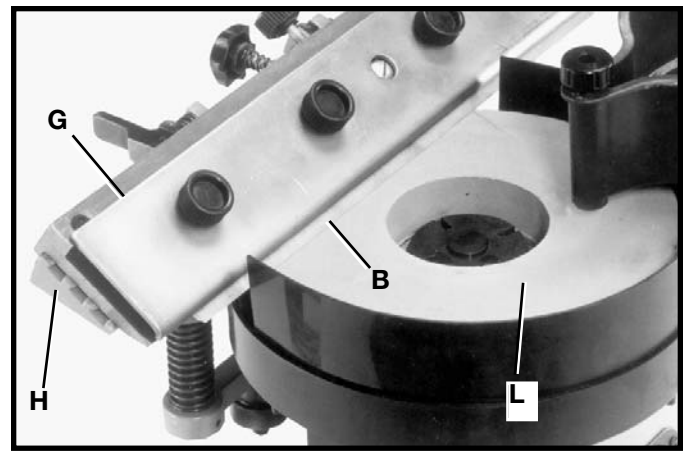
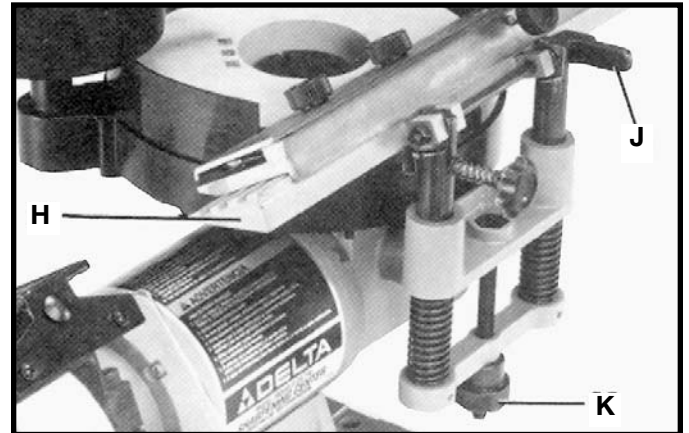
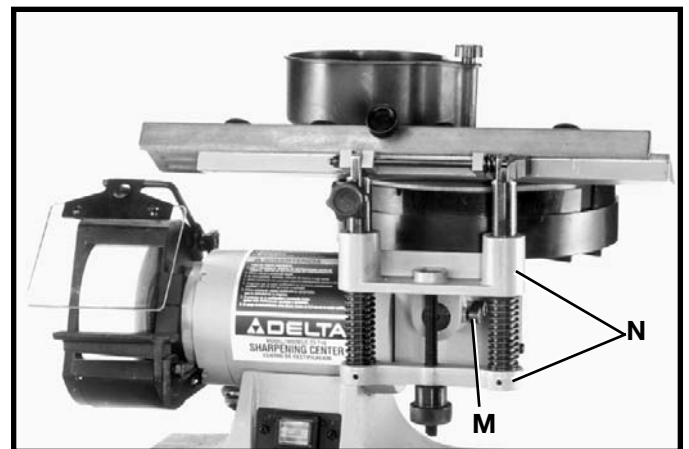

Fig. 53
Fig. 54
Fig. 55
3. Place sliding tool rest (G) Fig. 53, onto the tool rest base (H) as shown.
4. Adjust the height of tool rest base (H) Fig. 54, by moving locking lever (J) to the right and turning raising and lowering knob (K) until knife (B) Fig. 53, lightly touches grinding wheel (L). Then move locking lever (J) Fig. 54 to the left to lock in place.
5. Check to see if the knife (B) Fig. 53, is parallel with grinding wheel (L) at both ends when the knife is just contacting the wheel.
6. If the knife (B) Fig. 53, is not parallel with the grinding wheel, loosen screw (M) Fig. 55, and rotate tool rest base (N) until knife is parallel with grinding wheel. Then tighten screw (M) Fig. 55.